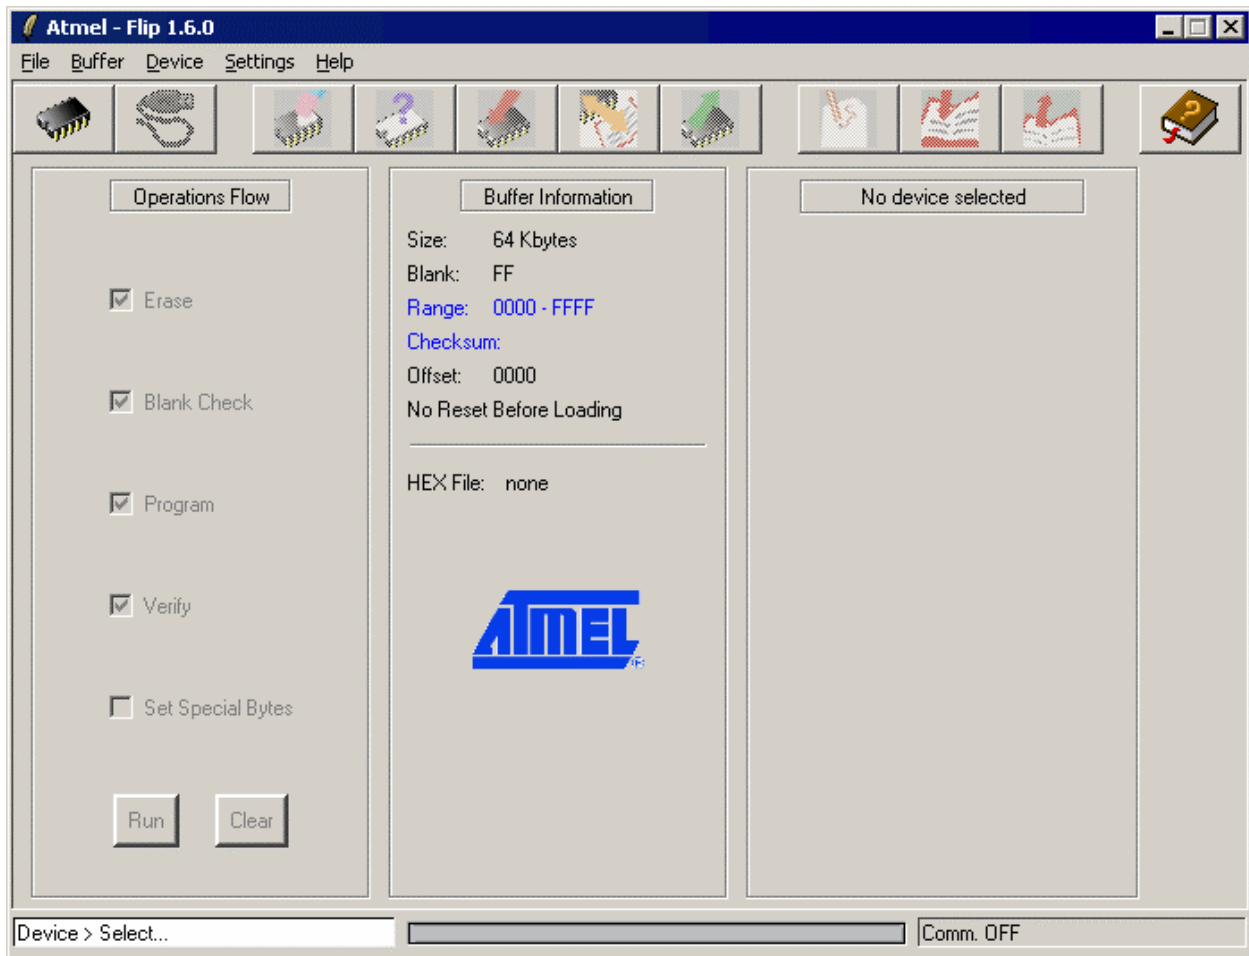

Figure 9 — Atmel Flip Initial Screen
5. The screen of **Figure 9** appears with a lower left corner message prompting you to ...